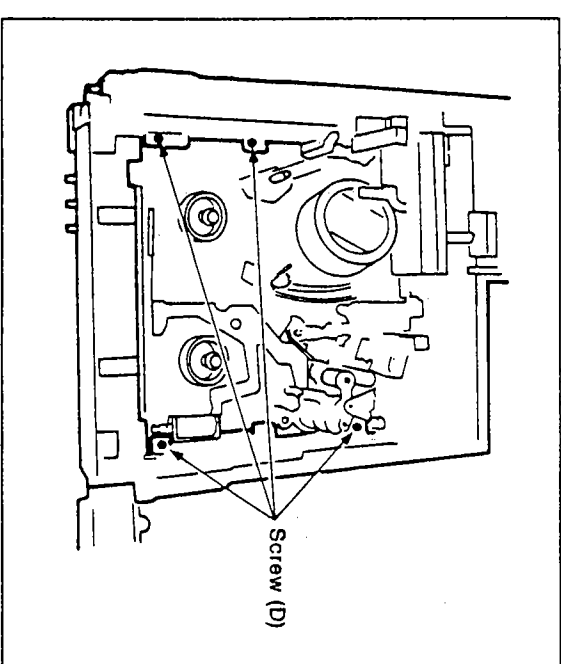

Figure M61
5. Tighten the 4 screws (D) as shown in Figure M61.